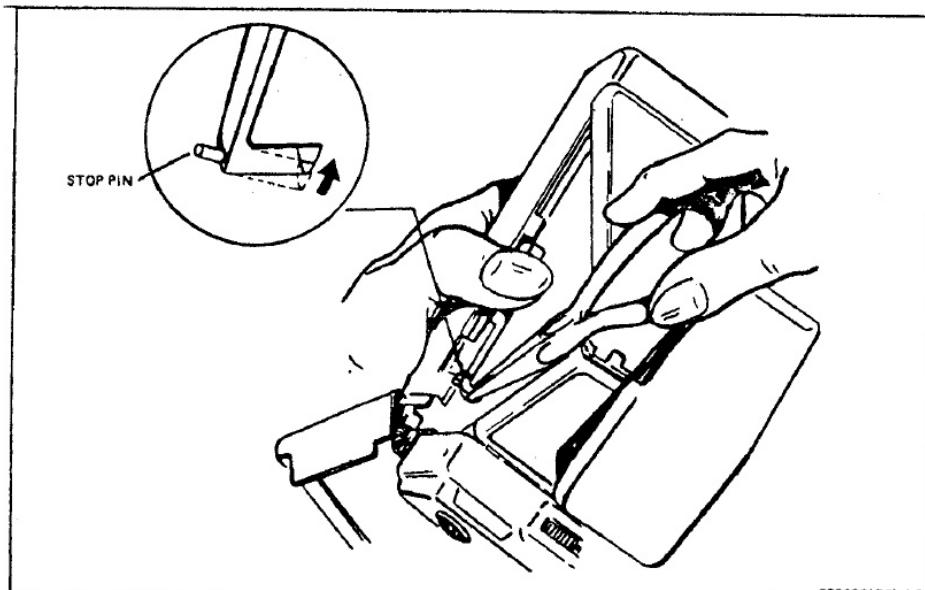

FIGURE 4-3 BENDING THE STOP LATCH
- With the latch depressed, use needle-nose pliers to bend the knife edge of the latch inboard (away from the front cover) slightly less than 90°, as shown in Figure 4-3.
- Observe that the stop pin (see Figure 4-3) is not resting on the outer plate when the front cover is closed. When resting on the outer plate, the latch/front cover closing system will loosen from wear in a short time. Make the following observation: